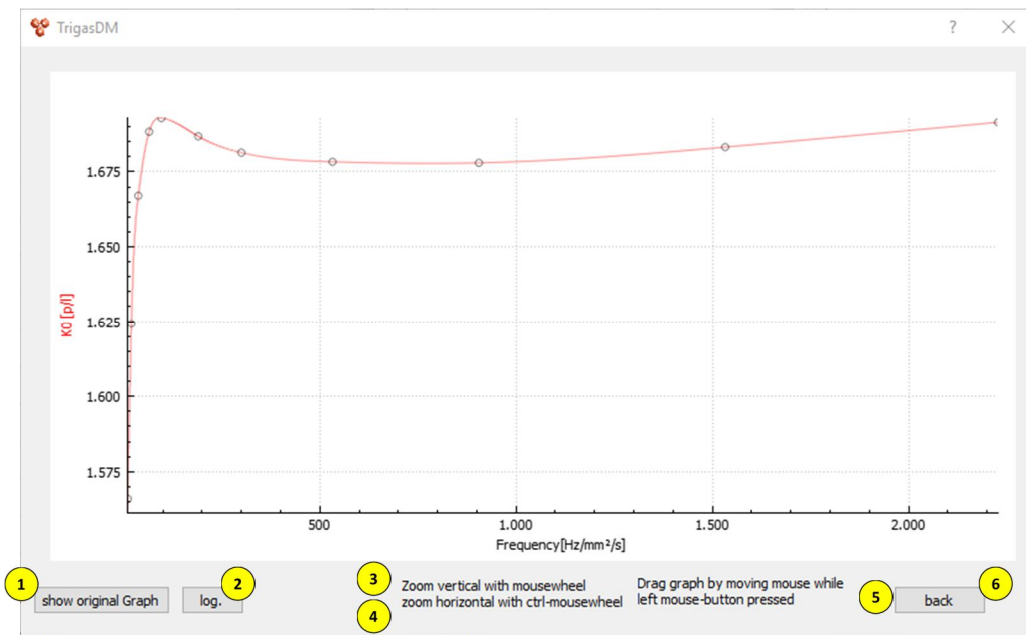

Fig. 7 Calibration curve and associated functions
| (1) "show original Graph":Back to the original curve [Fig. 7]               | (4) Ctrl + mouse wheel:Zoom in X direction [Fig. 7]                              |
| (2) "Log.":Switching between linear and logarithmic representation [Fig. 7] | (5) Hold down the left mouse button and move the mouse:Moving the graph [Fig. 7] |
| (3) Mouse wheel:Zoom in Y direction [Fig. 7]                                | (6) „back“:Back to the Software [Fig. 7]   |